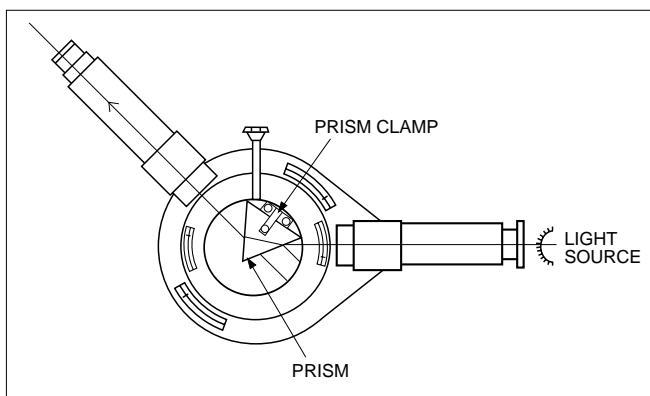

Figure 10 Mounting the Prism
3. Use the two thumbscrews to attach the prism clamp to the spectrometer table and clamp the prism in place as shown in Figure 10.